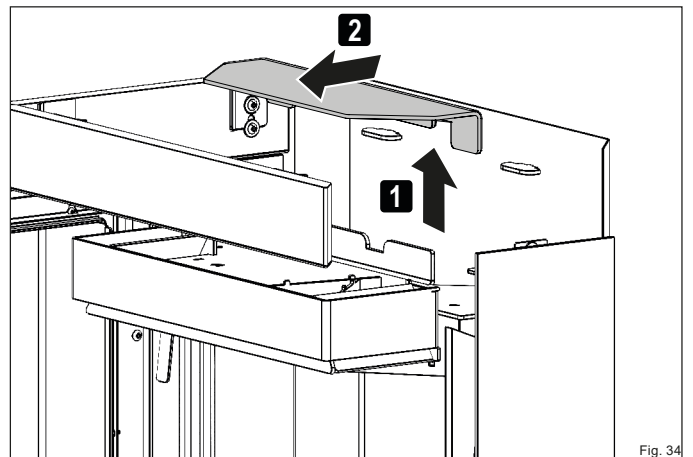

Fig. 34
- ▶ Release the above baffle plate out of the brackets (Fig. 34).